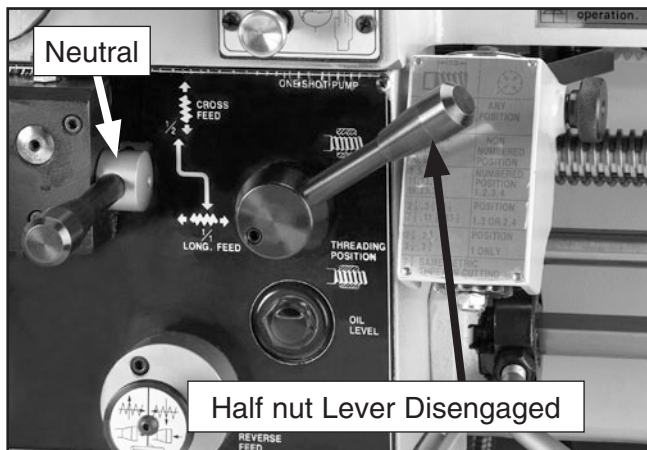

Figure 15. Apron disengaged.
9. To disengage the apron, position the half nut and the power feed levers as shown in **Figure 15**.